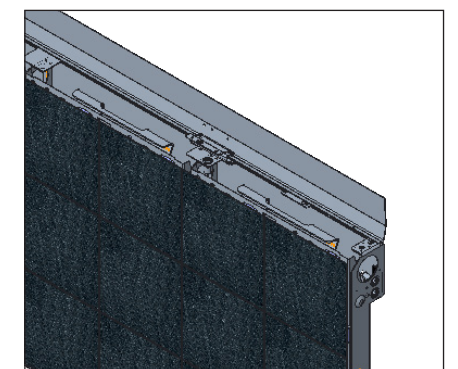

Figure 11: Open Beverage Shroud
2. Rotate the beverage shroud upward to open the shroud. Refer to **Figure 11**.